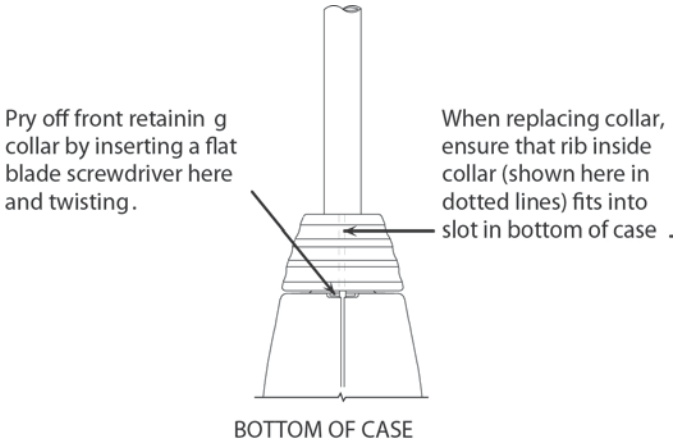

Figure 6. Front Retaining Collar Installation
3. Using a medium flat-blade screwdriver, first pry off the front retaining collar as shown in Figure 6. Then, remove the two case screws and pull the case halves apart.
See Figure 6 for instructions on how to remove the Front Retaining Collar.